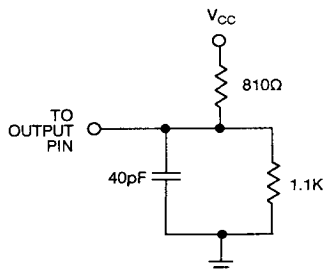

Figure 1. AC Output Test Load
2. See Test Load Figure 1.
Output Load	See Figures 1 and 2